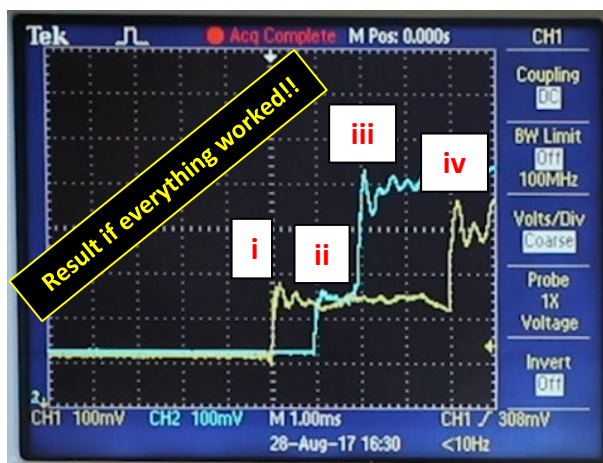

Figure 5
- 12) The captured data will be shown on display (Fig. 5)